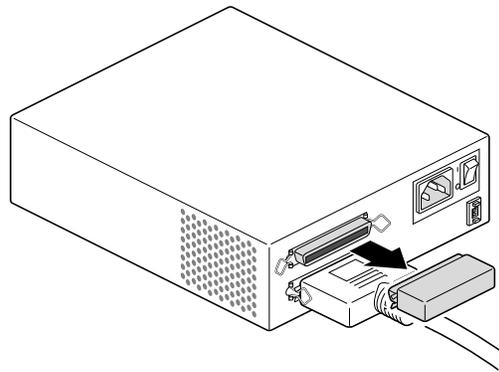

Figure 6-3 Removing the Terminator from the Last Device on the Daisy Chain
1. If you are daisy-chaining a new SCSI device to a connected SCSI device, remove the terminator from the connector on the last device in the current chain by squeezing the clips on both sides of the terminator and pulling it off. See Figure 6-3.